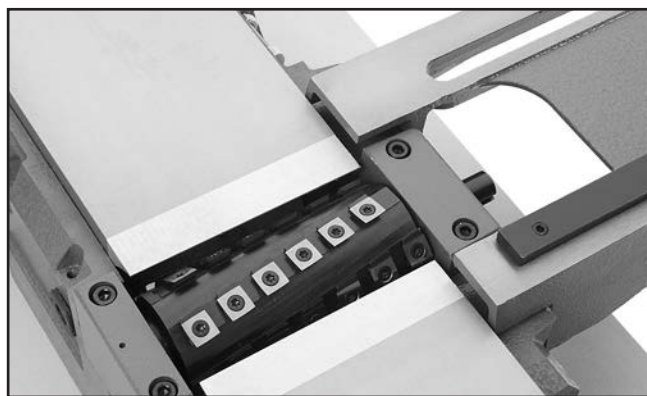

Figure 9. Example of helical cutterhead installed.
19. Secure bearing blocks with cap screws and lock washers removed in **Step 8** (see **Figure 9**).